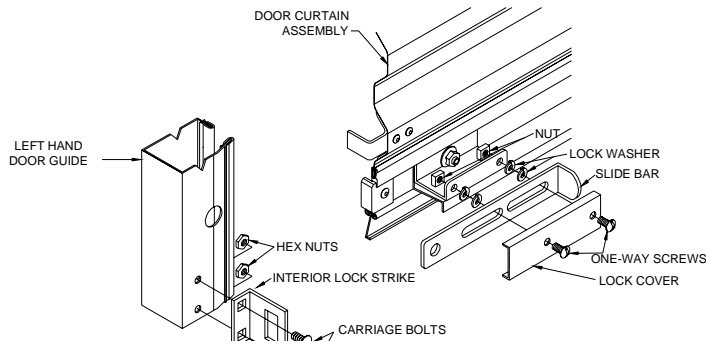

Figure 16.
13.2 Assemble components as shown in Figure 16, noting that two (2) high collar lock washers are placed over each 1/4" one-way screw to allow the lockbar to slide freely.